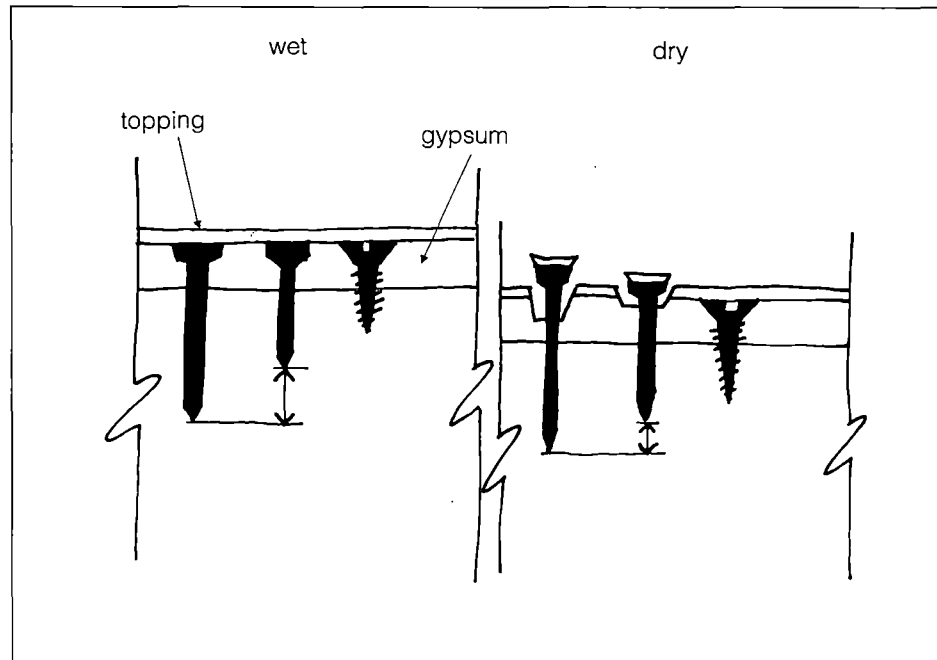

Fig. 4. Nail popping (exaggerated)
*Longer fasteners actually worsen the problem of nail pops, since shrinkage takes place over a greater length of nail (fig. 4).*
- Use code minimums: 32 mm (1-1/4") for nails and 29 mm (1-1/8") for screws with 13 mm (1/2") board (fig. 4).